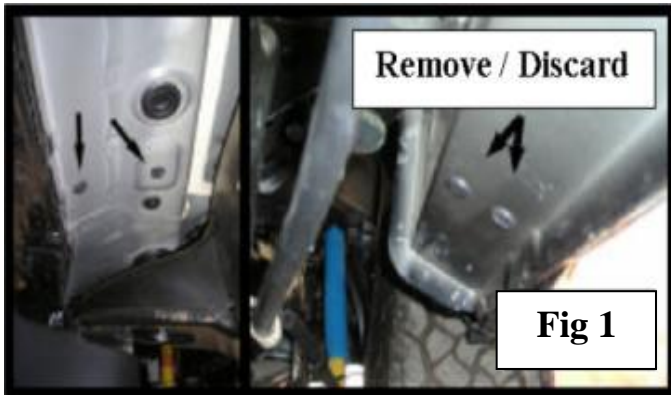

Fig 1
- Remove and discard six (6) OE plastic bolts from underneath the vehicle (Fig 1).